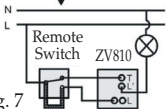

Fig. 7
- To replace a 2 way switch please refer to Fig. 7 for wire connection and add a link to the remote switch.
2. When the sensor switch is in a two way circuit (See Fig. 7), the remote switch acts as a momentary switch. It can only trigger the sensor switch to turn the lights when the slide switch is set to the "AUTO" position. Thus, the two-way circuit will be controlled by the sensor switch.